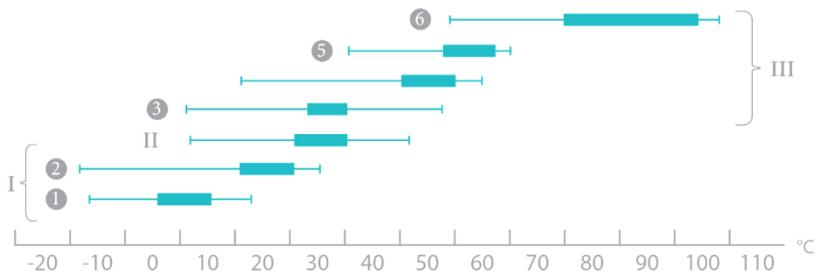

Figure 4. Temperature borders and optimal growth zones of prokaryotes and their classification.
9.1 **Temperature distribution specifics (psychrophiles, mesophiles, thermophiles).** The optimal growth temperatures of microorganisms are divided in three principal groups (see fig. 4):
- Psychrophiles (I) – obligate (1) and facultative (2);
- Mesophiles (II);
- Thermophiles (III) – thermotolerant (3), facultative (4), obligate (5) and extremophile (6).